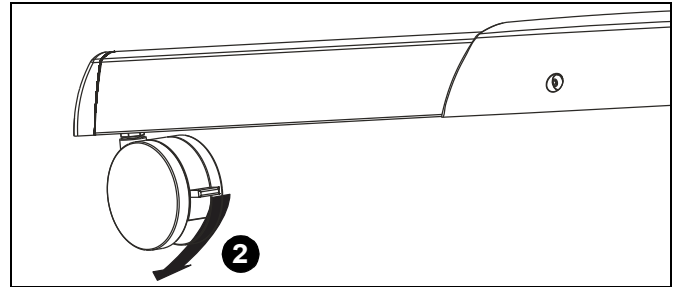

Figure 25
2. Always lock the wheels when the cart is not moving by pressing down the locks on wheels. (See Figure 25)